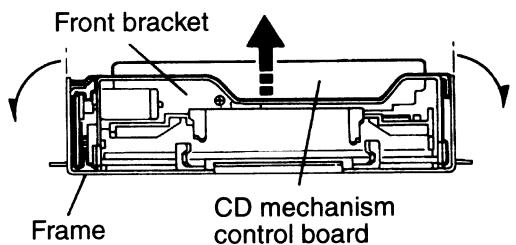
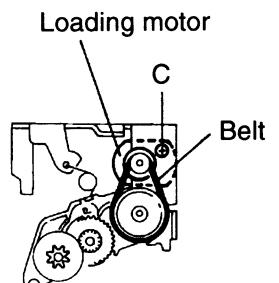

Fig. 13
Fig. 14
**CAUTION:** Remove the front bracket from the frame while expanding both sides of the frame as shown in Fig. 13
(See Fig. 13 and Fig. 14)
2. Remove the one screw C retaining the loading motor (See Fig. 14)